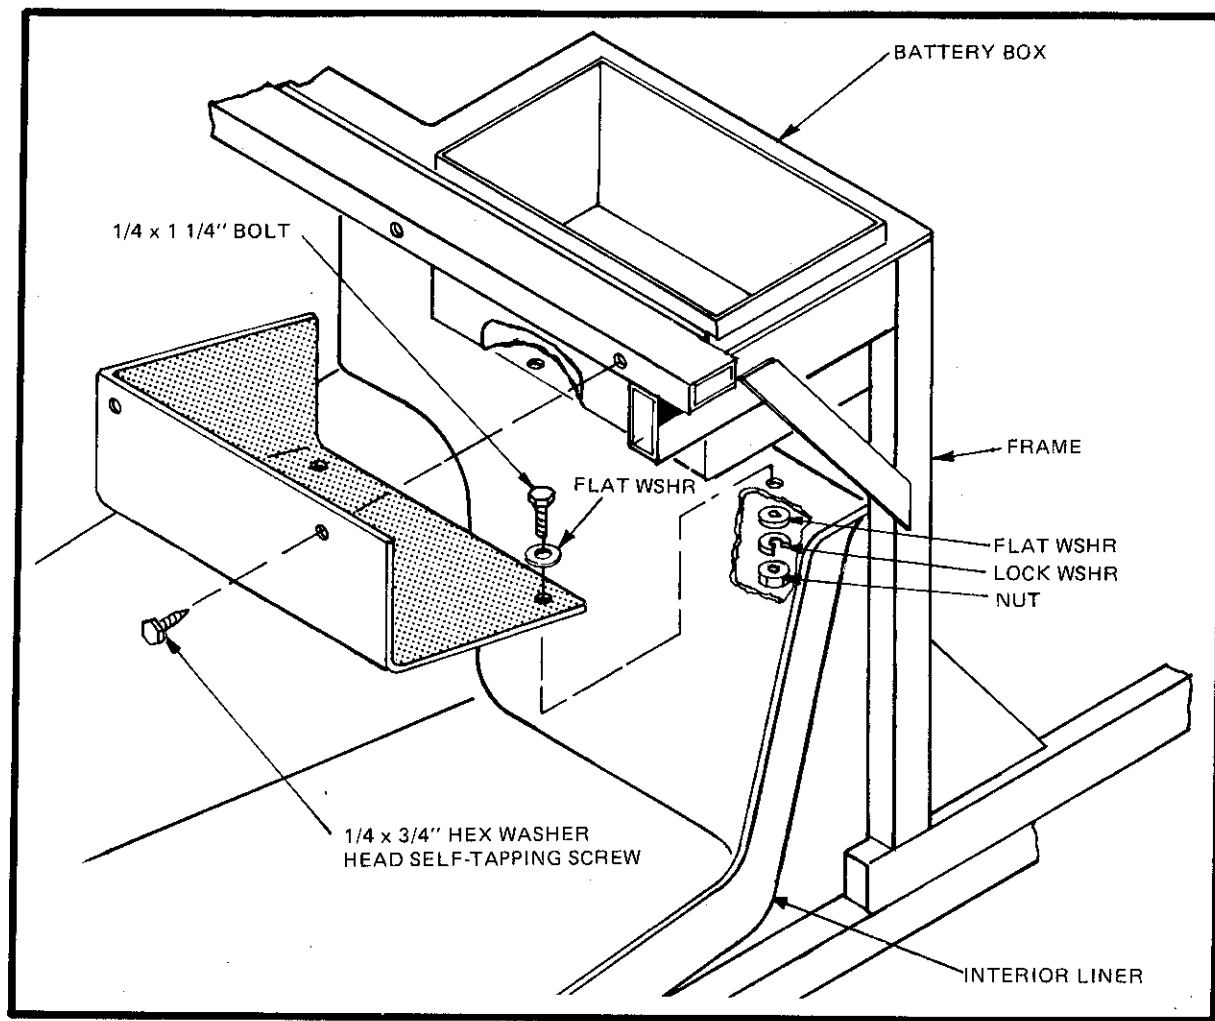

Figure 31
- ☐ Drill 2 holes, $1/4$ ", through the side of the extension and the side of the battery box. Secure with $1/4 \times 1\frac{1}{4}$ " bolts with 2 flat washers, lock washer, and nut. (Figure 31)